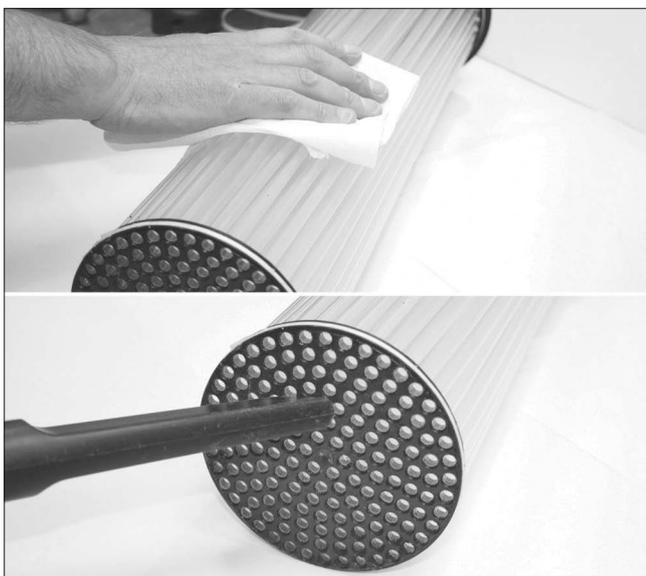

Fig.22A
- 22 Remove any dust or dirt using a dry or damp cloth. Alternatively gently vacuum the cell, ensuring you do not damage the tubes (Fig.22A).